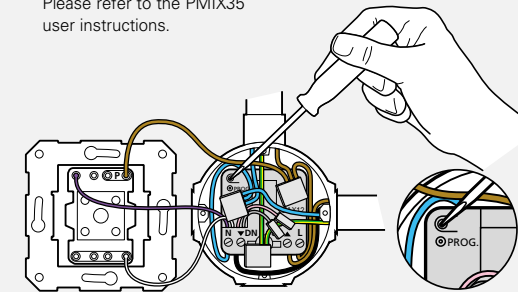

Figure 9. Activating and deactivating *Programming mode*.
- Press and hold the programming button for at least three seconds (see Figure 9). The red LED will light up and stay on after the button is released.